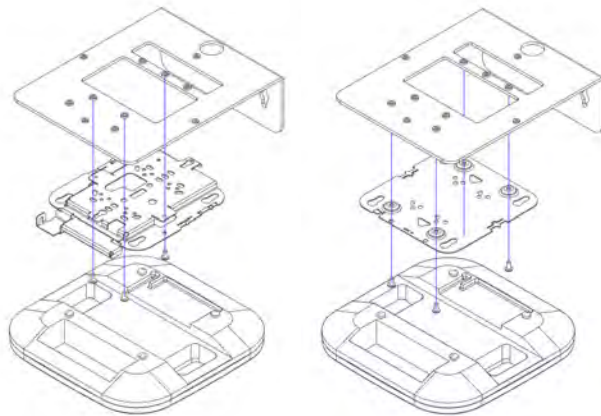

Figure 1
Step 2a (*Cisco Access Points Only*) – Use the legend on the back page to determine which hole pattern to use (Figure 4). Securely fasten the *access point's mounting bracket* to the mount using the included (4) # 8-32 screws (Figure 1).